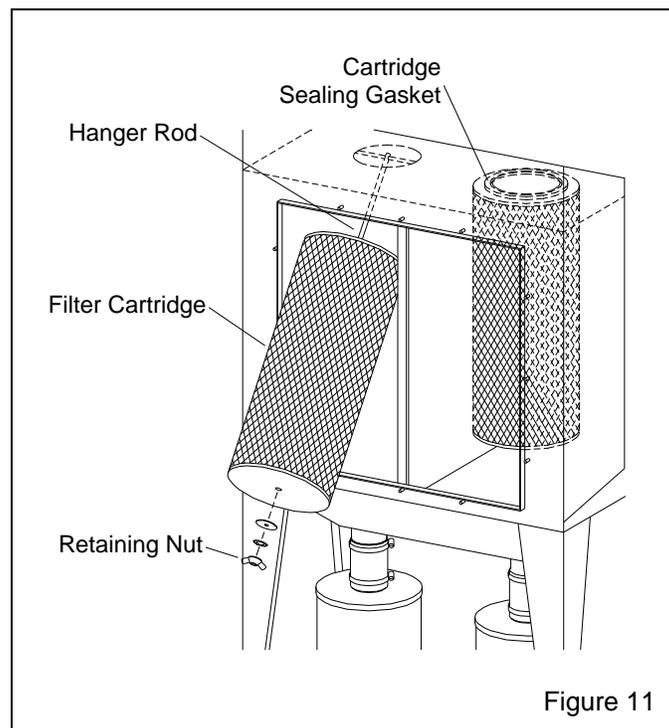

Figure 11
7.7 Filter Cartridge Replacement, Figure 11